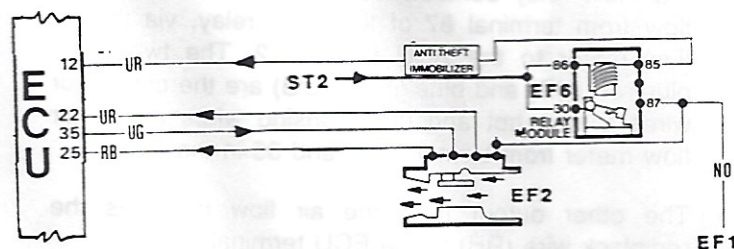

fig.47
The main relay (See Figure 47) works in a similar way to the fuel pump relay, the only difference being that terminals 86 and 30 are both connected directly to the battery supply (ST2) via the brown wire (N) and are therefore "live" at all times. Relay terminal 85 is connected to the ECU terminal 12 via a blue/red wire (UR), through the alarm immobiliser unit.
The injectors are supplied via a brown/orange wire (NO) from terminal 87 of the main relay. Referring to Figure 47 it can be seen that this will only happen after the contacts in the relay have closed; i.e. after the ignition has been turned on to create an earth return via the ECU terminal 12.